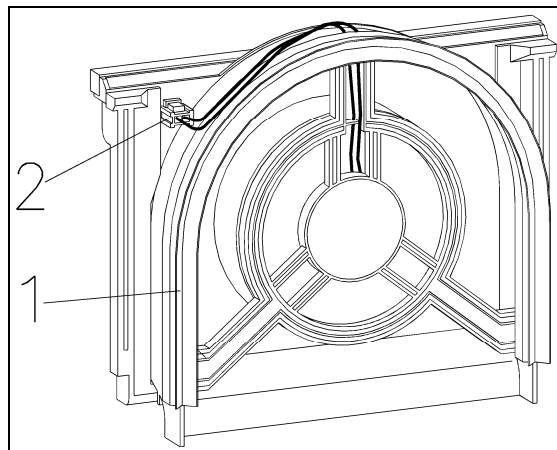

Figure 010-20: Fan Assembly
5. Remove the rubber seal from the fan; see Figure 010-20, Item 1.